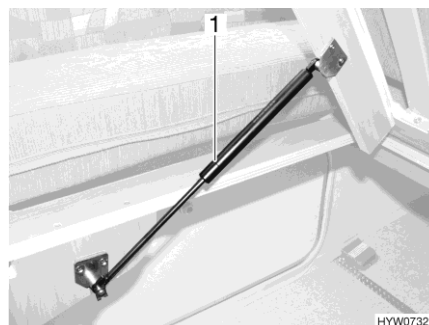

Fig. 76 Fixed bed
■ Lift slatted frame. The gas-pressure springs (Fig. 76,1) hold the slatted frame open.